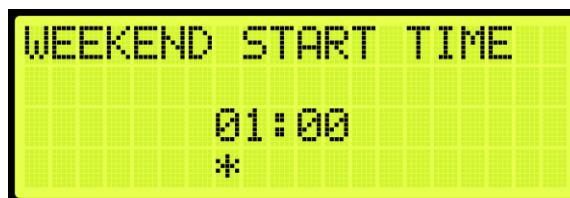

Figure 271: WEEKEND START TIME Menu
15. From the WEEKEND START TIME menu, set the start time of the hall call security (See Figure 271).